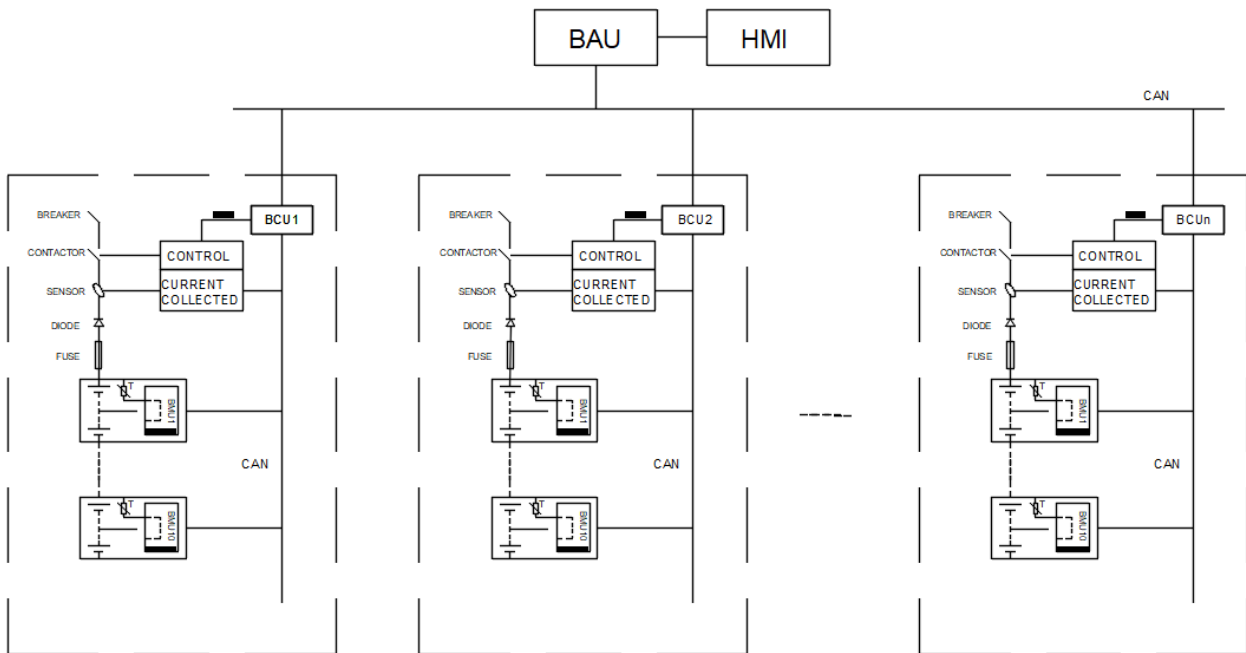

Fig 5.1 System topology
- 5.1.1 In Figure 5.1, the whole battery system is composed of multiple battery racks, BAMS, and HMI. Each battery rack is composed of multiple battery modules and a control box connected in series. Each battery module is equipped with a BMU to monitor the battery status.